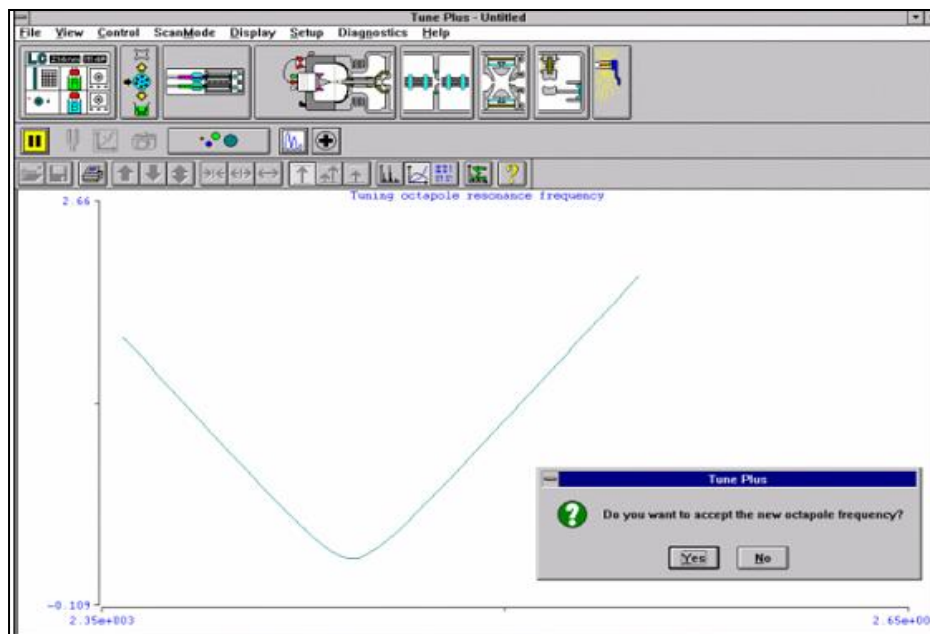

Figure 10. Graph view for the octapole RF voltage tuning.
8.2.2.6.3. Click on Start button. A frequency function appears in the graph view as shown in Figure 10. The minimum of the frequency function should lie between 2400 and 2550 kHz.